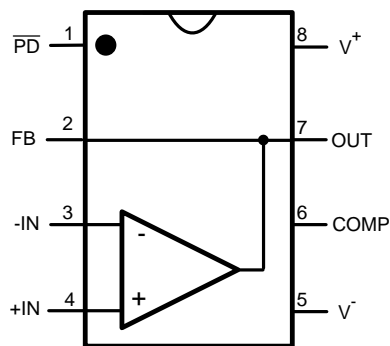

Figure 51. 8-Pin WSON Pinout Diagram
The LMH6629 (WSO8-8 package only) has some additional features to allow maximum flexibility. As shown in Figure 51 there are provisions for low-power shutdown and two internal compensation settings, which are further discussed below under the COMPENSATION heading. Also provided is a feedback (FB) pin which allows the placement of the feedback resistor directly adjacent to the inverting input (IN-) pin. This pin simplifies printed circuit board layout and minimizes the possibility of unwanted interaction between the feedback path and other circuit elements.